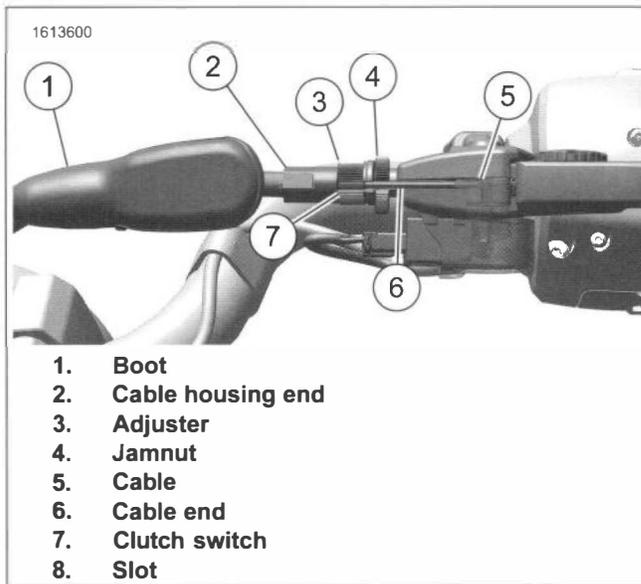

Figure 3-78. Clutch Cable at Hand Lever
1. See Figure 3-78. Loosen clutch cable.
- a. Slide boot (1) away from cable housing end (2).
- b. Loosen jamnut (4).
- c. Turn adjuster (3) to loosen cable housing.
1. See Figure 3-78. Remove clutch cable.
- c. Loosen jamnut (4).
- d. Turn adjuster (3) to loosen cable housing.
- e. Align adjuster (3) and adjuster lock (4) to allow cable (6) removal.
- f. Remove cable end (5) from slot (7).
1. See Figure 3-78. Install clutch cable.
- a. Verify slots in clutch cable adjuster (3), jamnut (4) and clutch hand lever assembly are aligned.
- b. Install cable end (5) into slot (7).
- c. Install clutch cable (6) through clutch hand lever assembly, clutch cable adjuster (3) and jamnut (4).